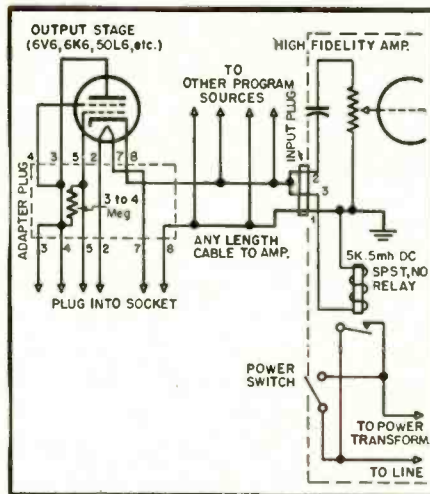

Fig. 1. Circuit schematic for the cathode-follower control system.
Four steps are involved in the realization of such a hi-fi system. The engineering and craftsmanship required are a minimum. The first step involves the addition of a few components to the power amplifier, as shown schematically at (A) in Fig. 1 and pictorially in Fig. 2. The second step is the "adaption" of the units. The third step is the construction of the simple adapter devices. The fourth step is the installation of the complete system.
Before describing these four steps in detail, it is desirable to consider the circuitry involved, including purely electronic functions. The essence of the system is the connecting link between the receiver unit and the hi-fi amplifier. Basically, it is a cathode-follower device which effectively shorts out the regular output transformer and provides special low-impedance output from the cathode.^{5,6} The pin connections shown are for output tubes similar to those shown at (B) in Fig. 1. Other tube types may be used with appropriate connections. In the power amplifier the d.c. component of the signal is used to energize a 5000-ohm d.c. relay which controls primary power for the amplifier. The audio signal passes through a blocking capacitor and a potentiometer adjusted for the proper operating level. The usual power switch remains in parallel with the relay contacts, providing manual power control in the event high-impedance sources are connected to the amplifier. The input terminal jack is wired to accommodate either high or low-im-